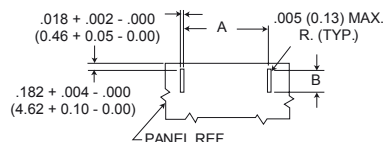

**Figure 4
3. Figure 4 is for edge board mounting bracket or edgeboard clip assembly. The .184 + .002 (2.67 + .05) dimension locates the MD socket insulator flush with the end of the board.